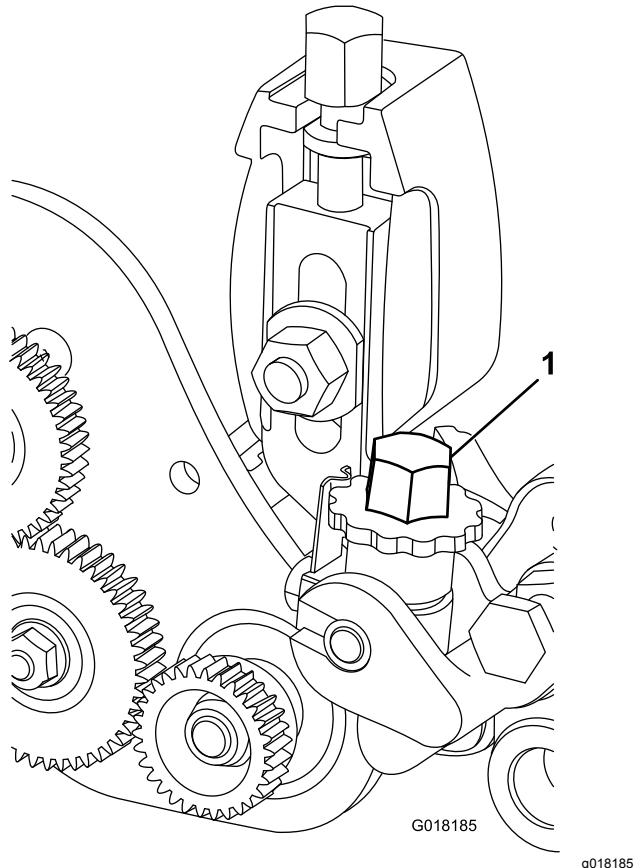

Figure 21
- 6. Turn the groomer height adjusting knob (Figure 21) to raise or lower the blade tip to the desired grooming height.